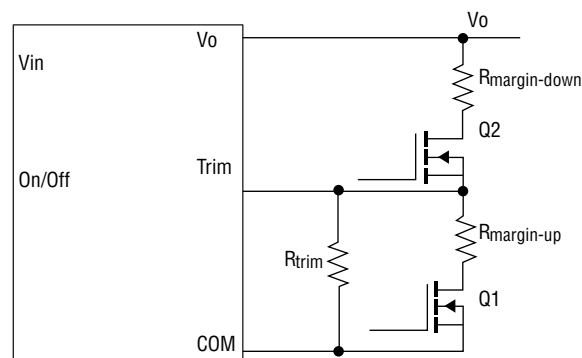

Fig. 26 Circuit Configuration for Margining Output Voltage
Output voltage margining can be implemented as follows and as shown in Figure 26.
The thermal reference points are (1) T_{ref1} = temperature at dual Mosfet as shown in Figure 26, and (2) T_{ref2} = temperature at controller IC. For reliable operation, neither T_{ref1} or T_{ref2} should exceed 115 °C.